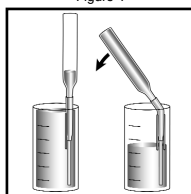

Figure 2
4. Holding the VACUette almost horizontally, touch the tip to the contents of the micro-test tube (fig 2).
5. Place the VACUette in the dilutor snapper cup and snap the tip (fig 2). The ampoule will fill leaving a bubble to facilitate mixing.